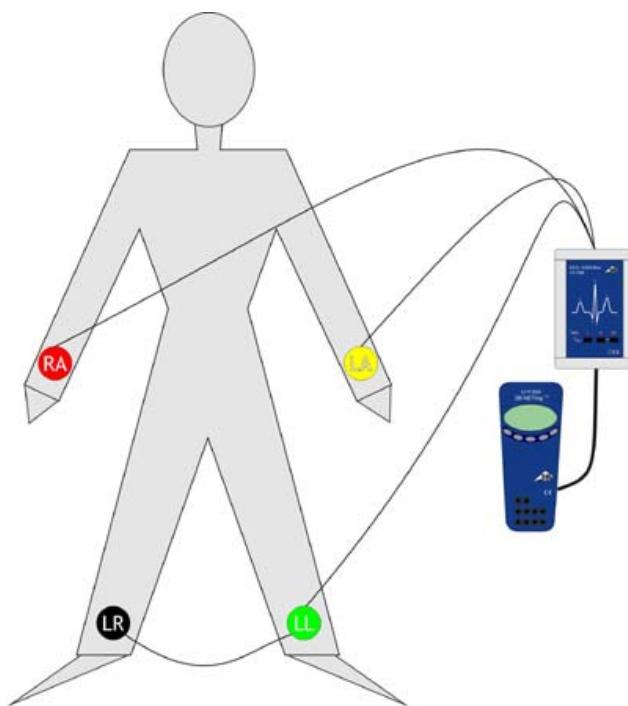

Fig. 1 Recording the ECG of a person
- Prepare the experiment as shown in Fig. 1.